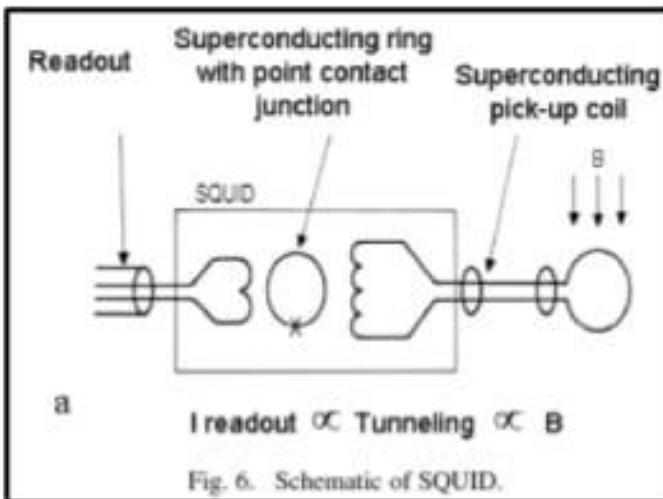

Fig. 6. Schematic of SQUID.
- The **most** sensitive of all instruments for measuring a magnetic field at low frequencies (1 Hz) is the superconducting quantum interference device (SQUID) illustrated in Fig. 6.